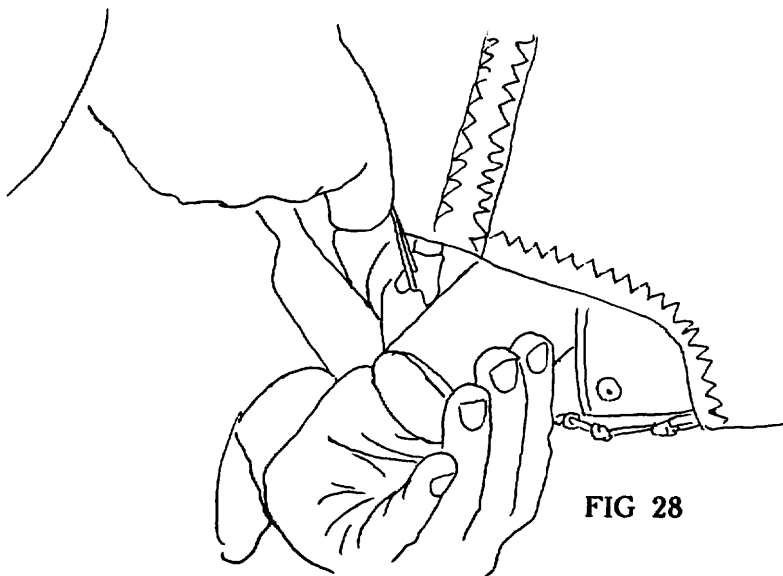

FIG 28
19) Set the glider nose into the wind, and pull the nose down. Grasp the string loop at the front of the nose batten and pull the forked batten end up and over until it sits on top of the keel tube. (Fig 28 and 29)